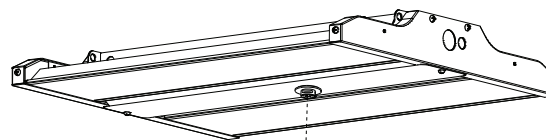

FIG. 2
2. Remove the USB-C receptacle cover by turning it 90° (see **FIG. 2**).